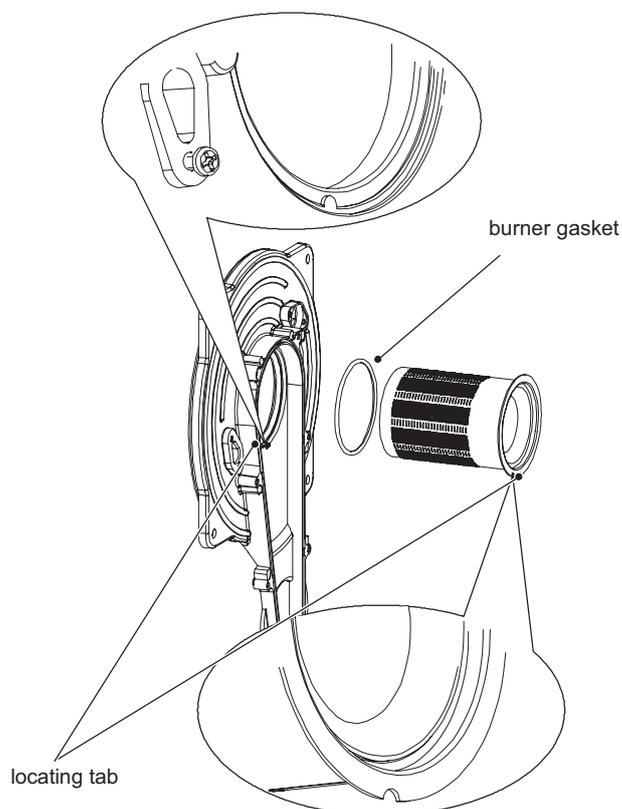

Figure 18.3
- 6 Assemble the burner carrying out the removal operation in reverse order. Ensure the burner is correctly located by lining up the locating tab (Figure 18.3).